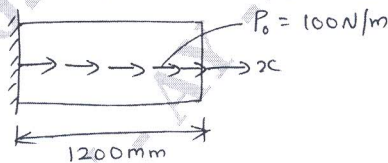

Fig.Q3(b)
b. Fig.Q3(b) shows a bar subjected to uniformly distributed load P_0 . Taking $E = 70\text{GPa}$, $A = 10^4\text{mm}^2$, determine: i) nodal displacement ii) stress in the element.